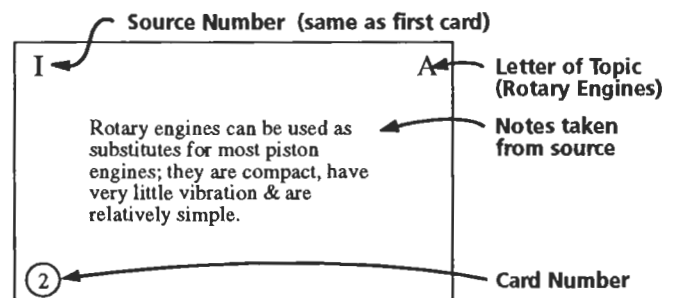

Figure 3 - Sample Second Topic Card
3. As you add new bibliography cards for additional sources or new topic cards (for further information about your process), you simply identify the source by a Roman numeral and the topic by a letter. You do not have to rewrite the bibliographic information for each single entry; rather, you need only indicate the source by the Roman numeral. (See Figure 3.)